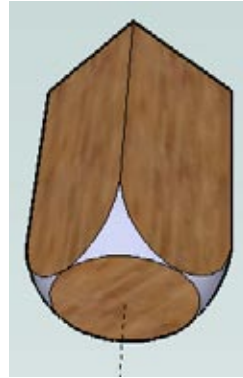

Figure 4-39
10. Turn off the display of hidden edge indicators by choosing View→Hidden Geometry again. Run Intersect with Model, and trim both the box and sphere (Figure 4-39). Check the model in X-Ray or Wireframe view to erase all extra edges.